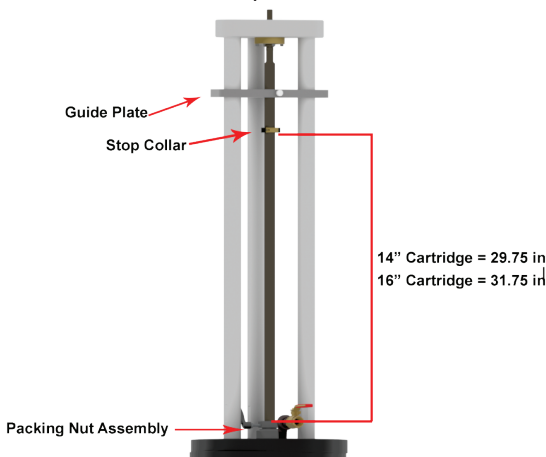

Figure D-14
**D1.21)** Set the stop collar the following distances from the top of the packing nut: (see Figure D-14 for reference.)